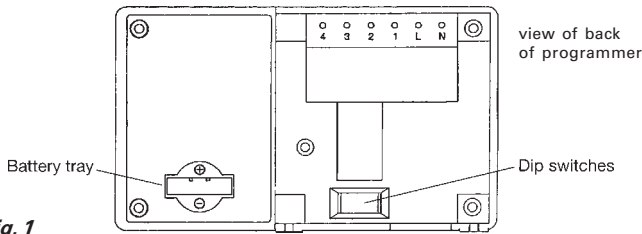

Fig. 1
5. Prior to installing onto the backplate, insert the battery into the battery tray (see Fig. 1) and ensure that positive + and negative - are correctly installed. The battery is a non-rechargeable lithium cell and in the event of power failure will protect your programme instructions for up to 365 continuous days of power loss. (However, please note in the event of premature battery failure you can write to the address below for a replacement.)